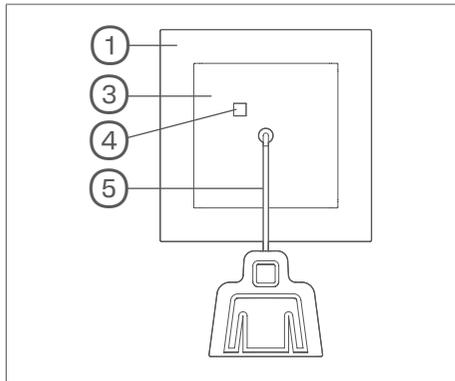
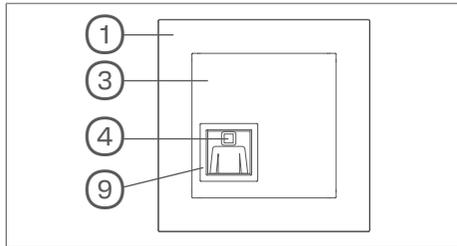

Figure 3: Pullcord push-button cover with frame
Figure 11: Call push-button cover with frame
- In an emergency situation, pull on the cord of the pullcord push-button (Figure 3, 5) or press the red button of the optional call push-button (Figure 11, 9).
The red reassurance LED (Figure 3/11, 4) lights up brightly.